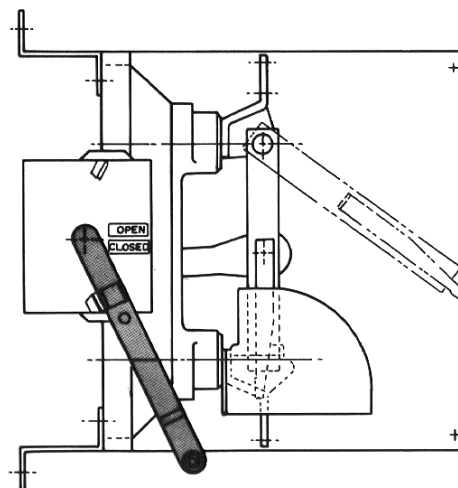

Fig. 13 Handle "DOWN" in switch closed position.
The component parts for this type arrangement is shown in Fig. 13. The switch and frame are mounted vertically in the enclosure. The arc chute interrupters are situated below the blade hinge. The switch has a direct drive operator and the handle is mounted on the left side of the enclosure. The handle is **down** with switch closed.
- a. Mount the frame-mounted switch (Fig. 13) in the enclosure. Check to be sure the 2-1/4" dimension from frame mounting holes to outside of enclosure (per Dwg. 424-015) has been maintained.
- d. Move handle to the DOWN or closed position as shown in Fig. 13 and engage hub and key of handle with the shaft extension and keyway of the stored-energy device.